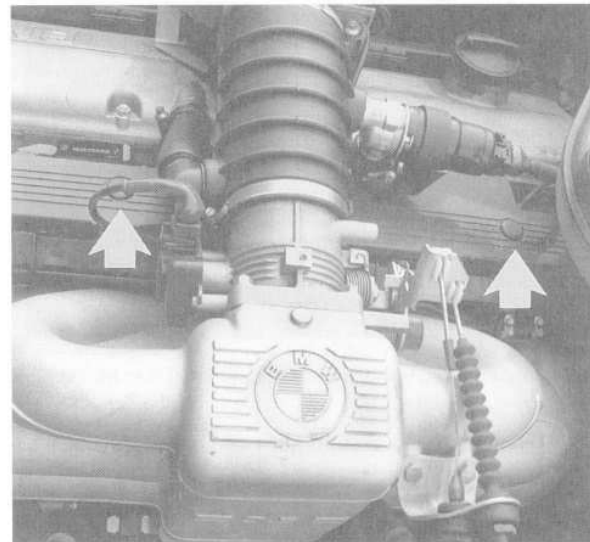

Fig. 20. Injector wiring duct retaining screws on M30 engine (arrows). Pry off caps to access allen screws.
3. Remove the screws from the injector wiring duct and remove the duct from above the injectors. See Fig. 20.
4. Remove the fuel rail mounting bolts (3).